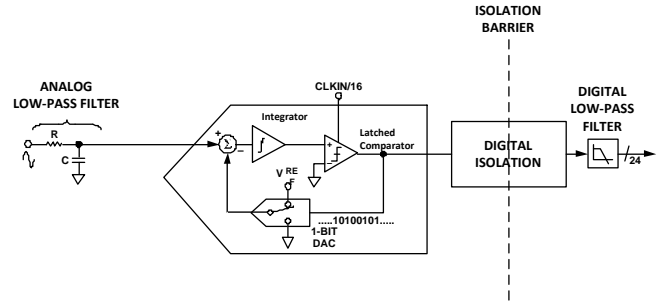
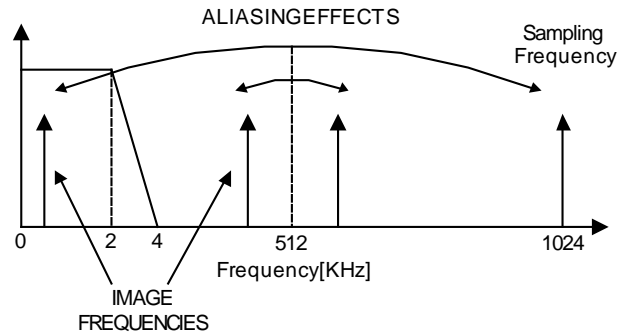

Figure 31. First-Order Σ - Δ ADC
Figure 33. Antialiasing Effects
The ADE7913/ADE7912 has three second order sigma-delta (Σ - Δ) analog-to-digital converters (ADCs). For simplicity, the block diagram in Figure 31 shows a first-order Σ - Δ ADC. The converter is composed of the Σ - Δ modulator and the digital low-pass filter, separated by the digital isolation block.
Figure 31 also shows an analog low-pass filter (RC) on the input to the ADC. This filter is placed outside the ADE7913/ADE7912, and its role is to prevent aliasing. Aliasing is an artifact of all sampled systems as shown in Figure 33. Aliasing means that frequency components in the input signal to the ADC, which are higher than half the sampling rate of the ADC, appear in the sampled signal at a frequency below half the sampling rate. Frequency components above half the sampling frequency (also known as the Nyquist frequency, that is, 512 kHz) are imaged or folded back down below 512 kHz. This happens with all ADCs regardless of the architecture. In the example shown, only frequencies near the sampling frequency, that is, 1.024MHz, move into the band of interest for metering, that is, 40Hz to 3.3 kHz or 2 kHz. To attenuate the high frequency (near 1.024MHz)